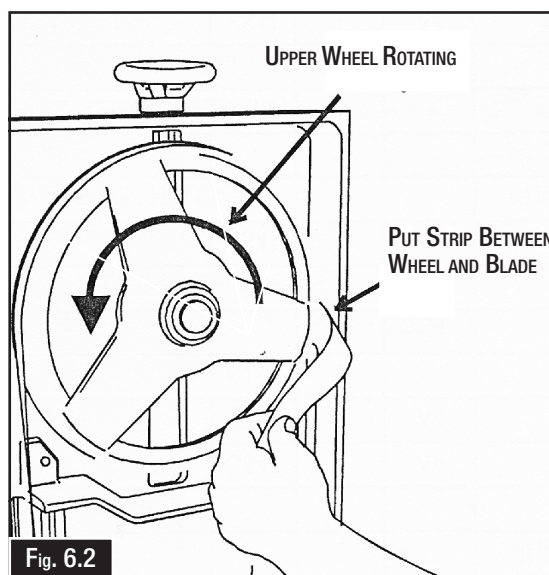

Fig. 6.2
7. Turn the setscrew to stop motion of the blade on the wheel as it gets closer to the wheel shoulder. Put a 6-inch length of paper between the blade and the wheel as shown in Fig. 6.2. The paper should not be cut as it passes between the wheel shoulder and the blade.